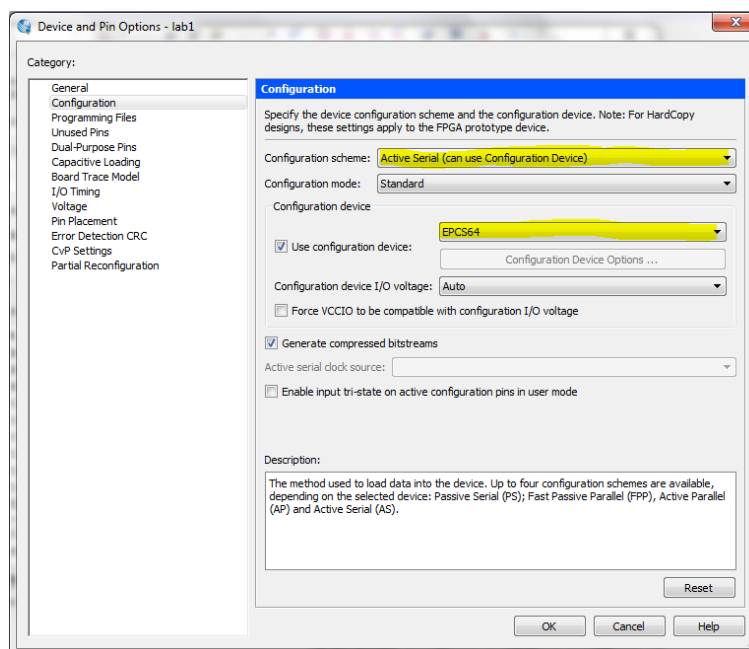

Figure 11: Active Serial Configuration Settings
- Before beginning this method you should first check that under **Assignments** → **Device** → **Device and Pin Options** are configured in the same way as figure 11, if not you must set the configuration scheme to *Active Serial* and also set the configuration device to *EPCS64*. If this was not set you must recompile your hardware.